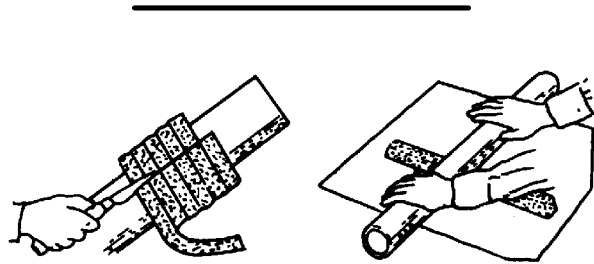

Figure F-4.
Step 1: Determine how much bulk packing will be required to fill the seal cavity and wrap it around a rod the same diameter as the shaft. With the packing wrapped around the rod, cut through each turn as shown in Figure F-4.